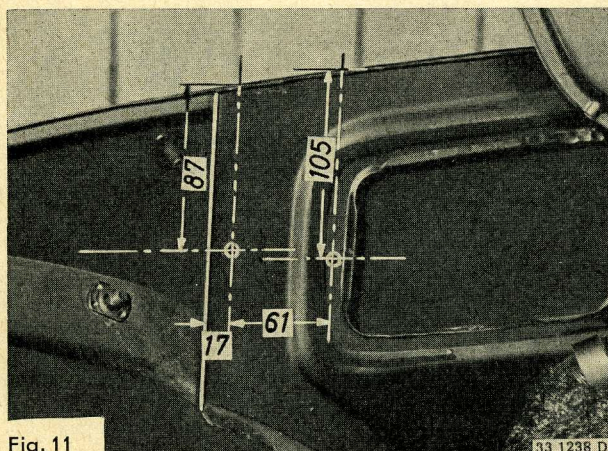

Fig. 11
- a) Drill 6.5 mm holes according to measurements in Fig. 11 and smooth edges.